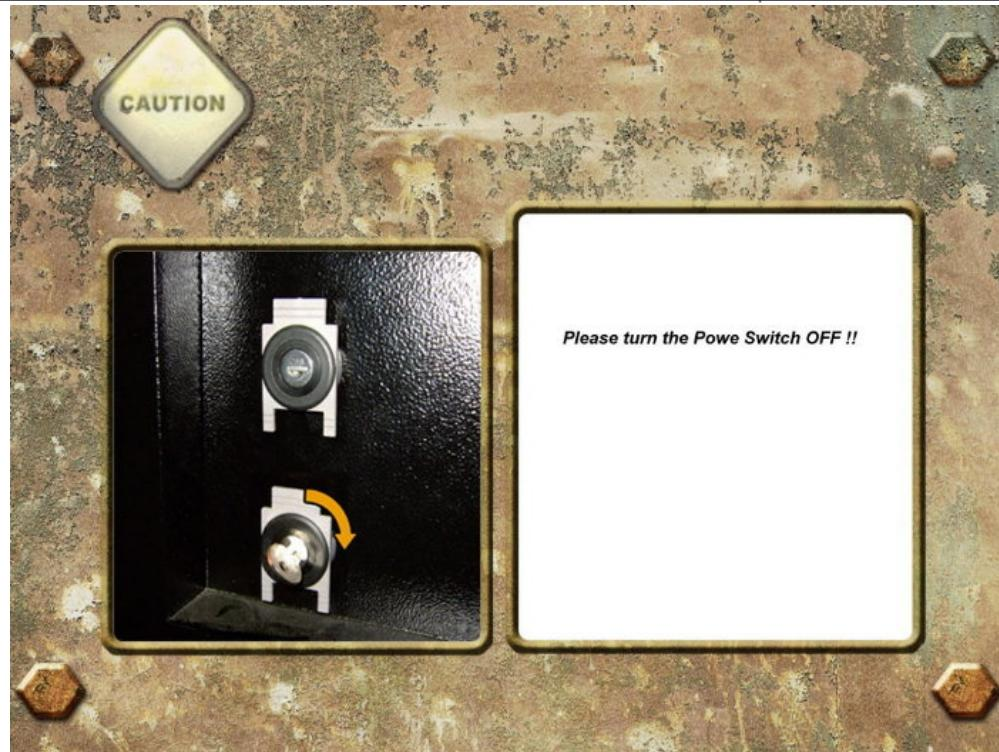

Fig. 4-22 “Shutdown System” Window
2. Press the “**select**” button on the joystick to choose to Shutdown, so computer can systematically close (Fig.4-22).